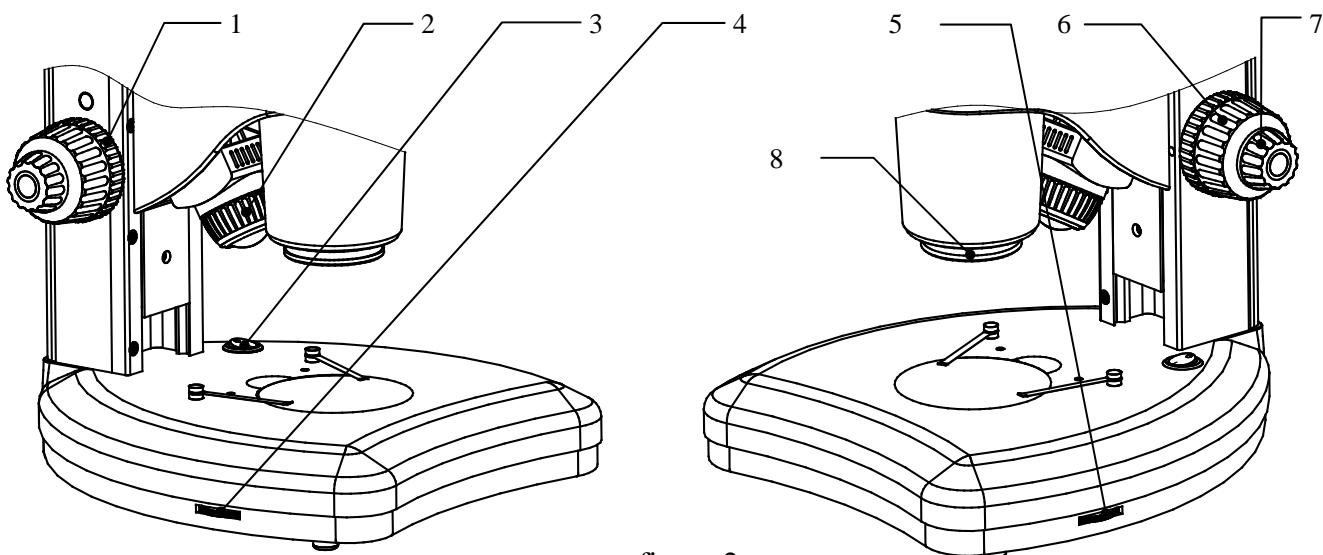

figure 2
Turn on the toggle switch **3** (turn it to the “-” position, the power switch turn green). Turn the brightness control knob **4/5** to adjust the brightness of the bulb, the reflected illumination **2** can be adjusted. As shown in Fig.2 . When use additional illumination(Annular Fluorescent Illumination/ Annular LED Illumination). It can be put on the objective tube **8**, see figure 2
5.2-2 The tension of the coarse focus control knob **1** is adjustable and preset at the factory for ease of use. If wish to adjust the coarse focus tension, turn the knob **1** to tension adjustment. Turn the wheel anticlockwise decrease the tension, and clockwise increases it, as indicated by the arrow in the figure 2.